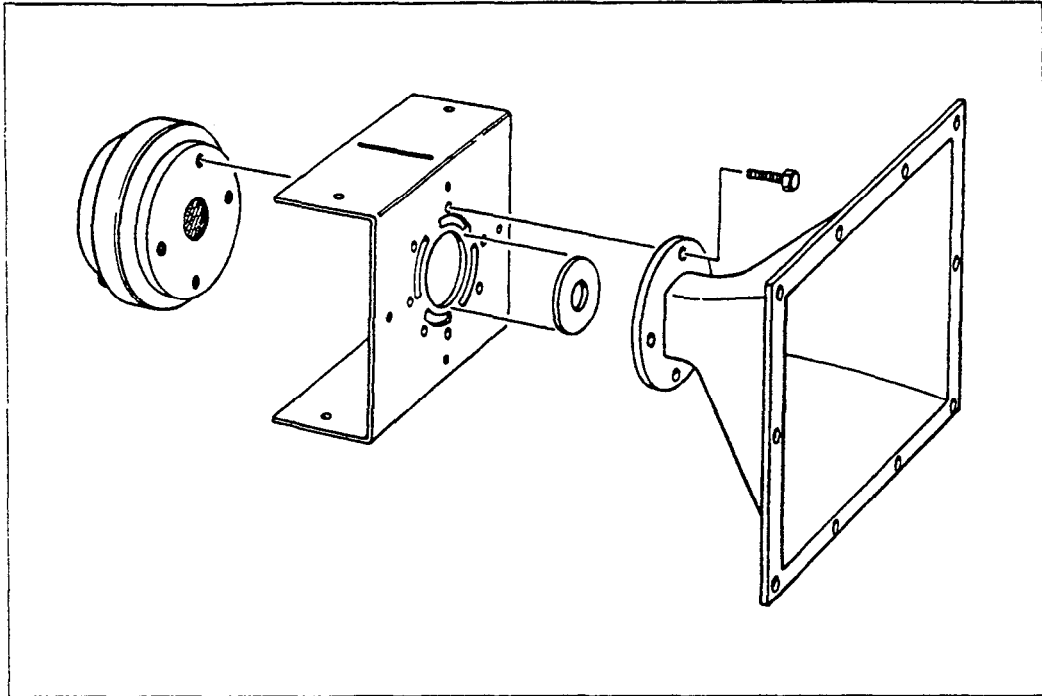

Fig. 1 - 2510 Bracket - Use the gasket for 1 1/2-inch horn/driver, omit for 3-inch horn/driver.
- 3) Positioning — Position the 2510 between the horn and compression driver, as shown in figure 1. You may position the bracket with the attachment flange facing either toward the horn or toward the driver, depending on your suspension requirements.